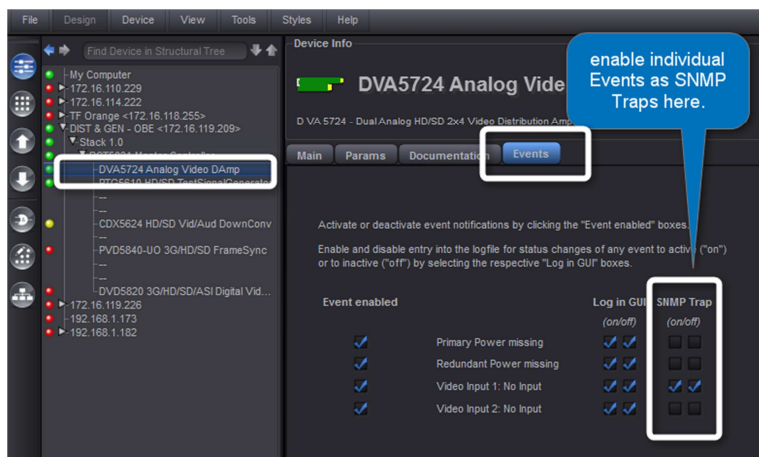

figure 1: SNMP Traps are enabled per individual CardModule
Whenever an Event of an individual CardModule changes its state (passive->active or active->passive), an appropriate entry is added to the LYNX MasterController's Logfile. Additional notification options can be controlled from the individual CardModules "Events" Tab in the APPolo GUI (see figure 1):
- (1) Enable the Option OC_RSL_CTRL in the MasterController that hosts the CardModule in question.
- (2) Use the LYNX APPolo GUI to navigate to the CardModule, go to the Events-tab and enable the SNMP-Traps for any event (for example: "Video Input 1: No Input") at the DVA5724 as shown in figure 1.